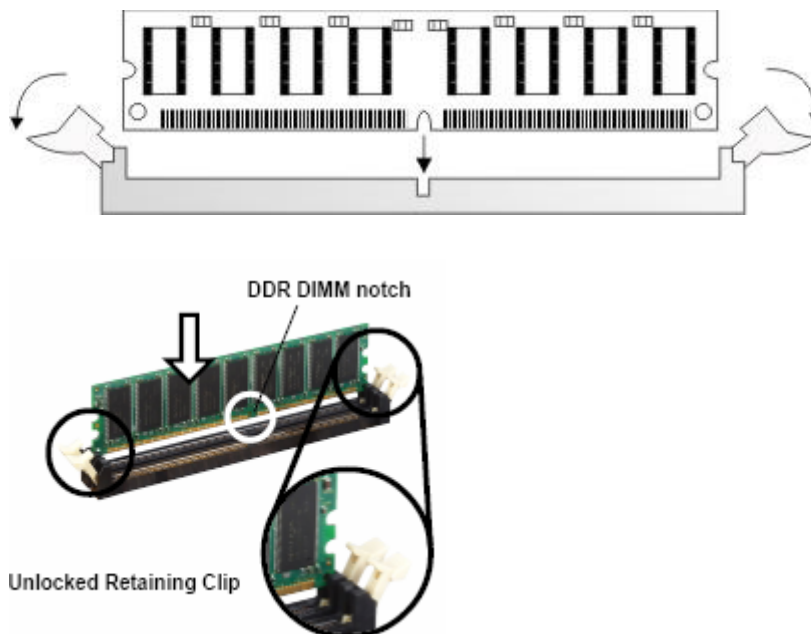

Figure 4-4: Installing the DIMM Module
Step 1: Make sure the two handles of the DIMM socket are in the "open" position, leaning outward (Figure 4-4).